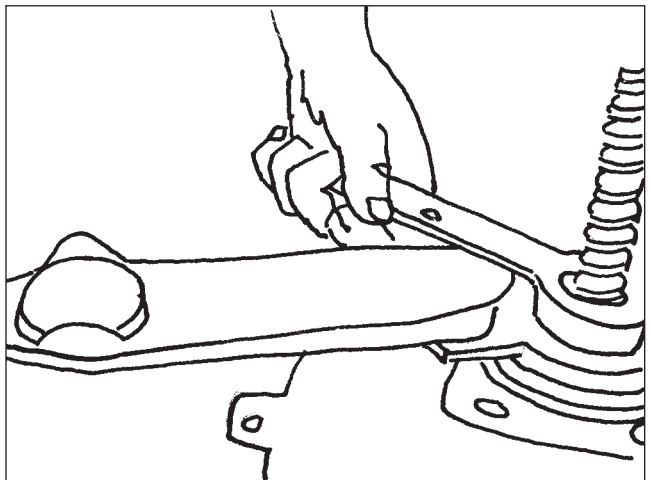

Figure 79
24. While holding the retaining nut in place, tighten the star nut to 10-12 foot pounds of torque, using the torque wrench and Tool #3563992. Do not allow the shaft retaining nut to move while torquing the star nut (**Figure 79**).